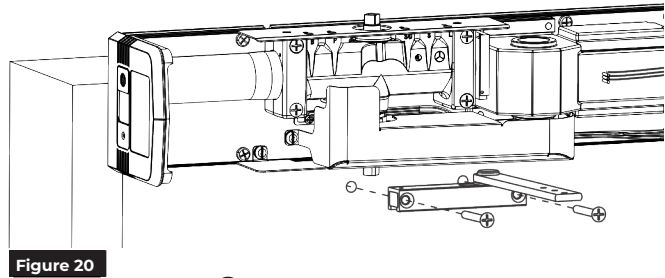

Figure 20
- Using previously prepared holes in doors, install two (2) 1/4-20 x 1-5/8" screws through each shoe and into sex bolts. (Figure 20)